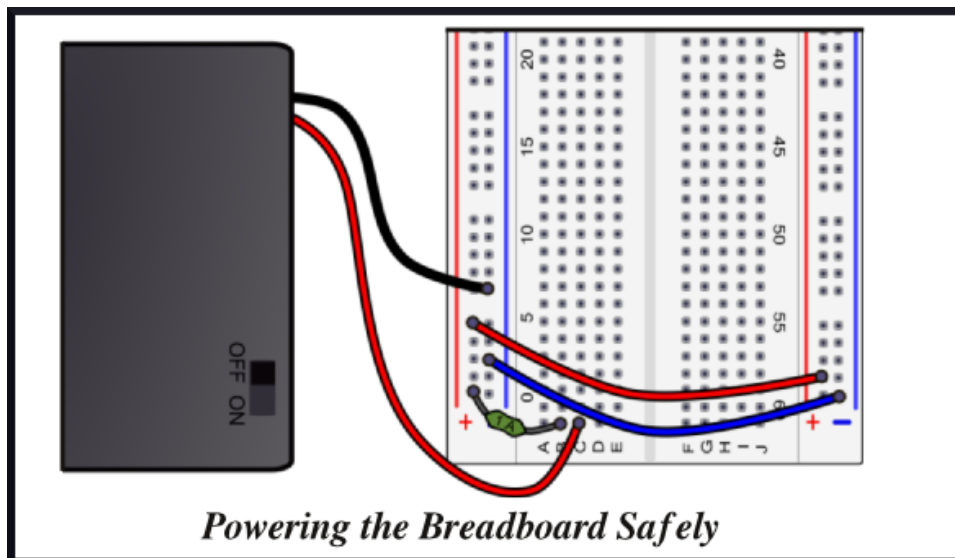

Figure 2. powering the breadboard
- Bring your power source, here you will use a 5V battery, as shown in Figure.2.
- Use wires as shown in Figure 2, Connects the black wire to the blue bus terminal or ground and the red wire to the red bus terminal.